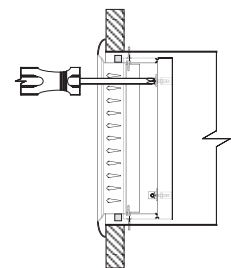

Fig. 3
STEP 3: Look inside the openings of the register and locate the four adjusting screws. Carefully insert a screwdriver and tighten all four adjusting screws until the register is firmly held in place (fig. 3). Be careful not to overtighten.